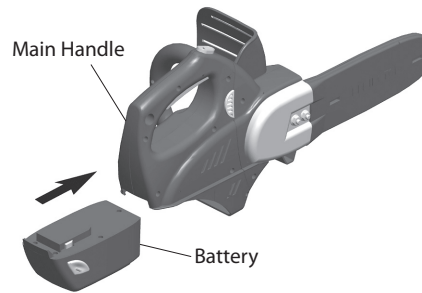

Figure 7 - Assemble Battery onto Main Handle
3. Slide battery onto main handle until release buttons "snap" together (see Figure 7).